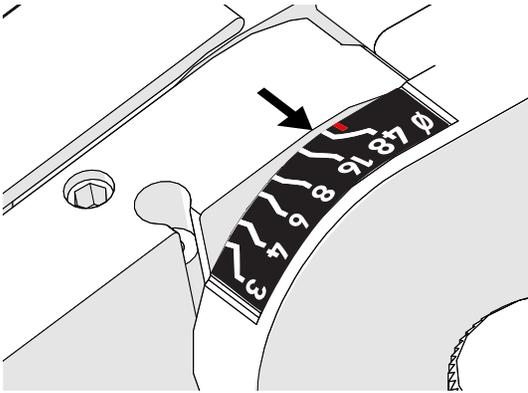

Fig. 17 - Diameter indicator
3. Observe the diameter indicators to assist with setting the scanner to the correct diameter required (Fig. 17).